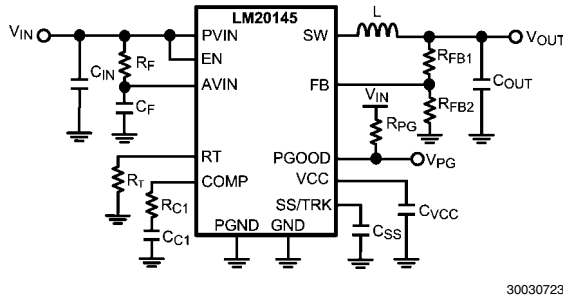

FIGURE 2. Typical Application Circuit
The LM20145 switching regulator features all of the functions necessary to implement an efficient low voltage buck regulator using a minimum number of external components. This easy to use regulator features two integrated switches and is capable of supplying up to 5A of continuous output current. The regulator utilizes peak current mode control with nonlinear slope compensation to optimize stability and transient response over the entire output voltage range. Peak current mode control also provides inherent line feed-forward, cycle-by-cycle current limiting and easy loop compensation. The switching frequency can be varied from 250 kHz to 750 kHz. The device can operate at high switching frequency allowing use of a small inductor while still achieving high efficiency. The precision internal voltage reference allows the output to be set as low as 0.8V. Fault protection features include: current limiting, thermal shutdown, over voltage protection, and shutdown capability. The device is available in the eTSSOP-16 package featuring an exposed pad to aid thermal dissipation. The LM20145 can be used in numerous applications to efficiently step-down from a 5V or 3.3V bus. The typical application circuit for the LM20145 is shown in *Figure 2* in the design guide.
This section walks the designer through the steps necessary to select the external components to build a fully functional power supply. As with any DC-DC converter numerous trade-offs are possible to optimize the design for efficiency, size, or performance. These will be taken into account and highlighted throughout this discussion. To facilitate component selection discussions the circuit shown in *Figure 2* below may be used as a reference. Unless otherwise indicated all formulas assume units of amps (A) for current, farads (F) for capacitance, henries (H) for inductance and volts (V) for voltages.
To prevent high frequency noise spikes from disturbing the sensitive analog circuitry connected to the AVIN and AGND pins, a high frequency RC filter is required between PVIN and AVIN. These components are shown in Figure 2. as C_F and R_F . The required value for R_F is 1Ω. C_F must be used. Recommended value of C_F is 1.0 μF. The filter capacitor, C_F should be placed as close to the IC as possible with a direct connection from AVIN to AGND. A good quality X5R or X7R ceramic capacitor should be used for C_F .